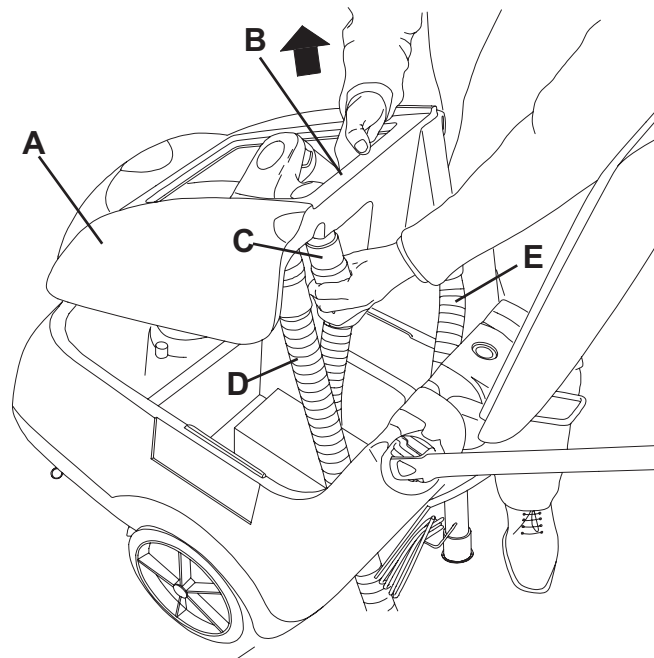

Figure 5
1. Empty the recovery water tank (31) as shown in the relevant paragraph.
4. Disconnect the vacuum hose (22) from the squeegee (11).
5. Disconnect the recovery water drain hose (16) from the bracket (17).
6. Open the cover (6).
7. Grasp the recovery water tank (A, Fig. 5) in the area (B) and slightly raise it.
8. Disconnect the vacuum hose (C) from the tank, then remove the tank (A) with the hoses (D) and (E).